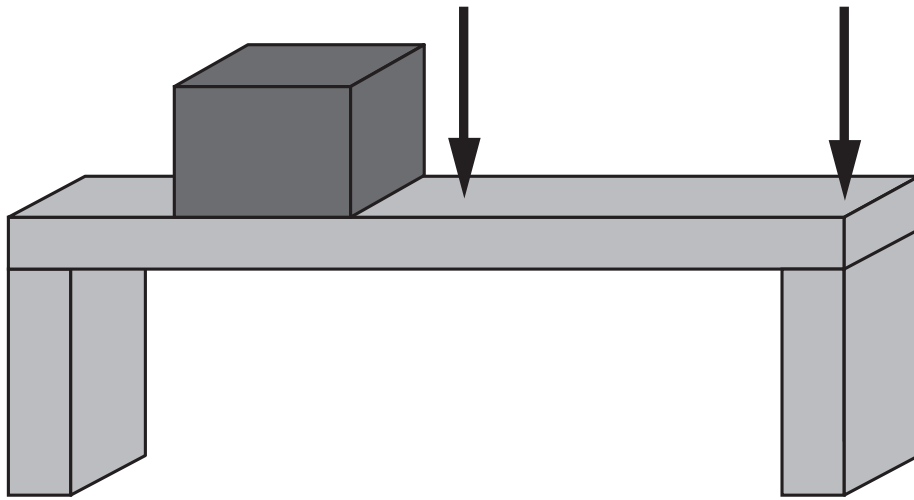

Figure Q3
3. Figure Q3 shows a beam which supports a water tank and two other applied loads as shown.